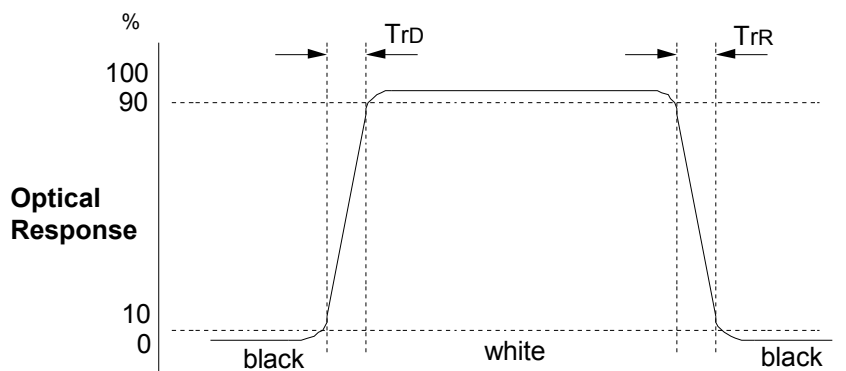

FIG. 3 Response Time
4. Response time is the time required for the display to transition from white to black(Rise Time, Tr_R) and from black to white(Decay Time, Tr_D). For additional information see FIG 3.